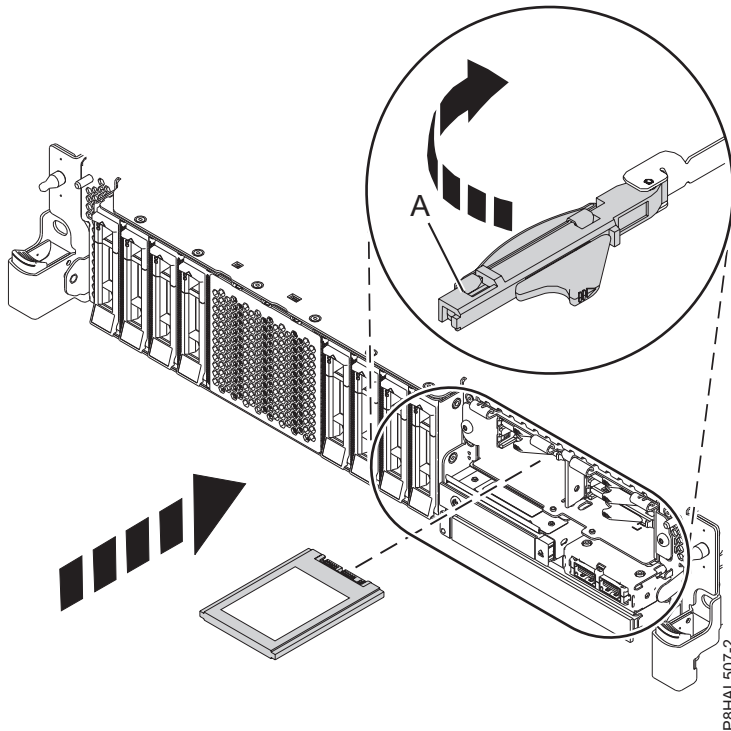

Figure 80. Replacing an SSD in an expanded function system
15. With the SSD drive bay handle (A) in the unlocked position, pull the lever outward to gain access to the guide rails in the SSD slot. Support the bottom of the SSD as you align it with the guide rails in the SSD slot. See Figure 80 on page 82.
20. Lock the drive by rotating the bay handle (A) in the direction that is shown in Figure 80 on page 82.